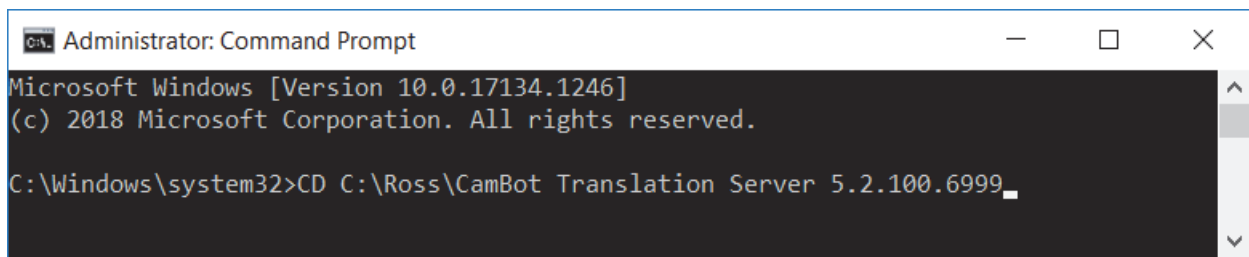

Figure 3 - Navigating to the CamBot Translation Server folder
- a. Type **CD** followed by a space and the folder path, for example, **CD C:\Ross\CamBot Translation Server x.x.x.x**), where **x.x.x.x** represents the version number you noted in **Step 2**. See **Figure 3**.